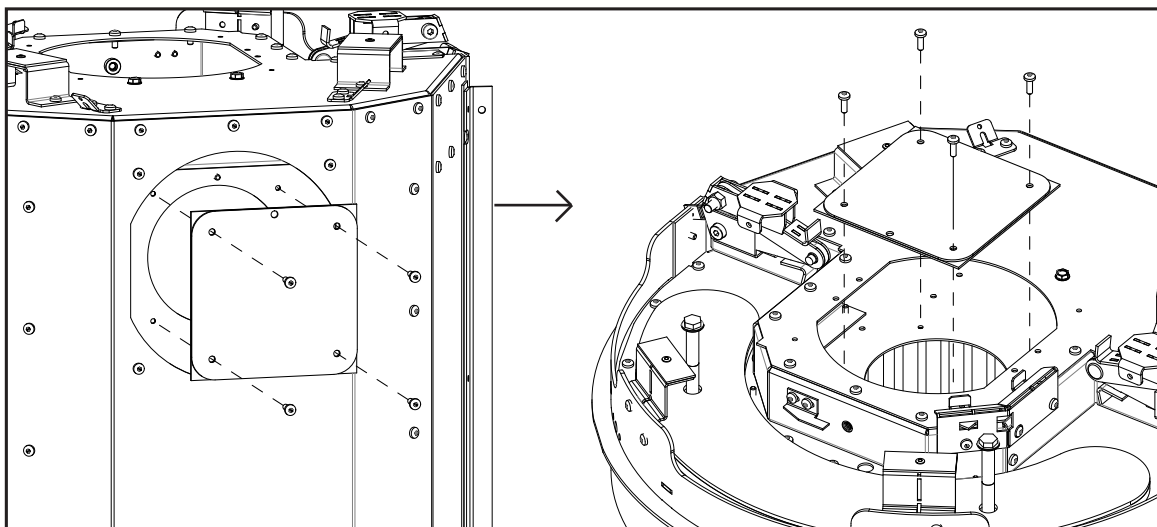

**Figure 69: Vent Adapter Removal**
7. Remove the vent adapter from the top of the unit by removing the four (4) T20 screws (see Figure 69). Be delicate with the gasket, you will be reusing this.